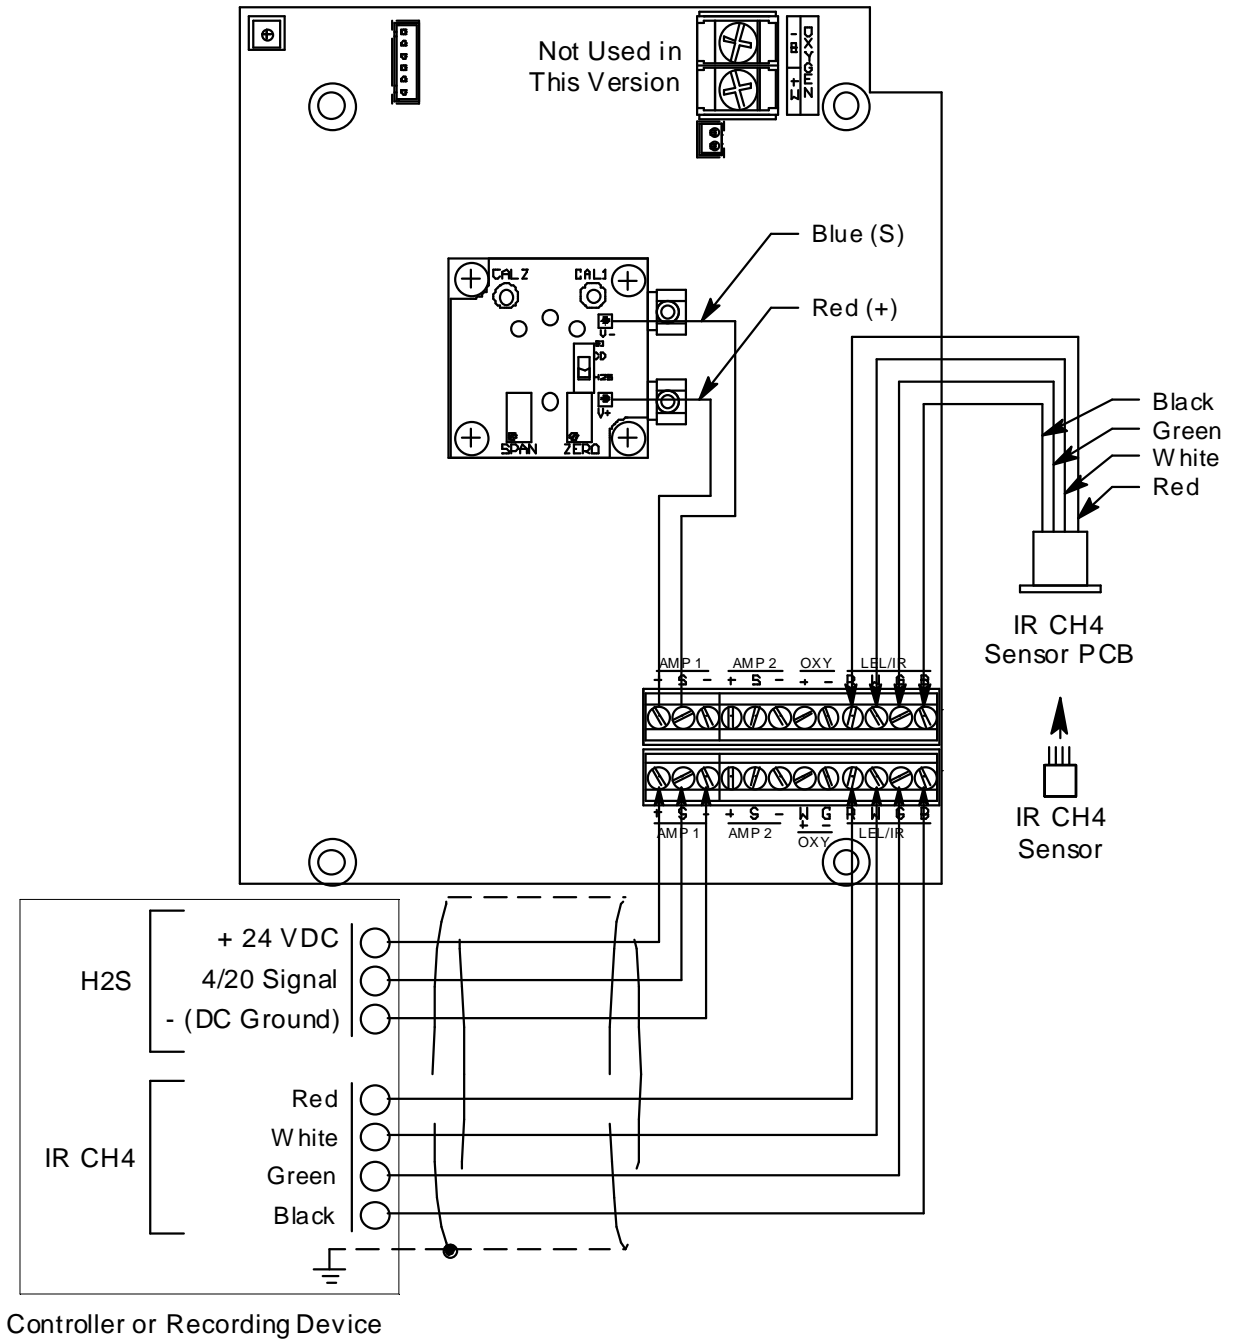

Figure 5: Wiring the Sample-Draw Detector to a Controller
5. Connect the cable to the sample-draw detector’s interconnect terminal strip as shown in Figure 5.
- Connect the wires to the applicable detector/transmitter terminal strip at the controller as shown in Figure 5. Refer to the controller operator's manual and the controller detector head specification sheet for the 35-3001-07-01 for detector/terminal strip connections specific to the controller.